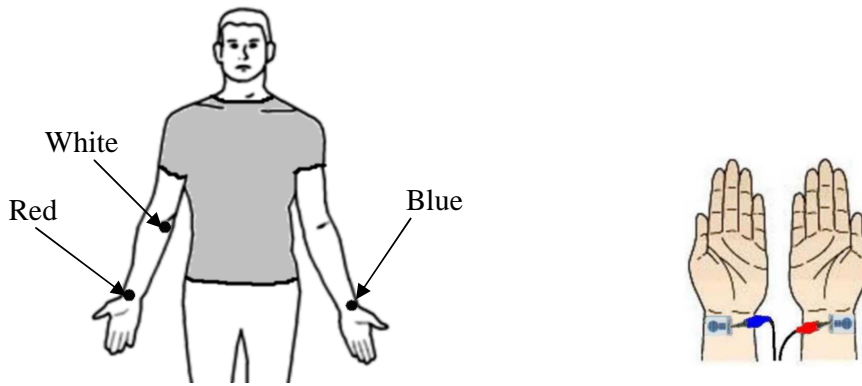

Figure 2. Connection of the ECG sensor to the body
6. Connect the white alligator clip from the sensor to the tab of the right elbow electrode (see figure 2).